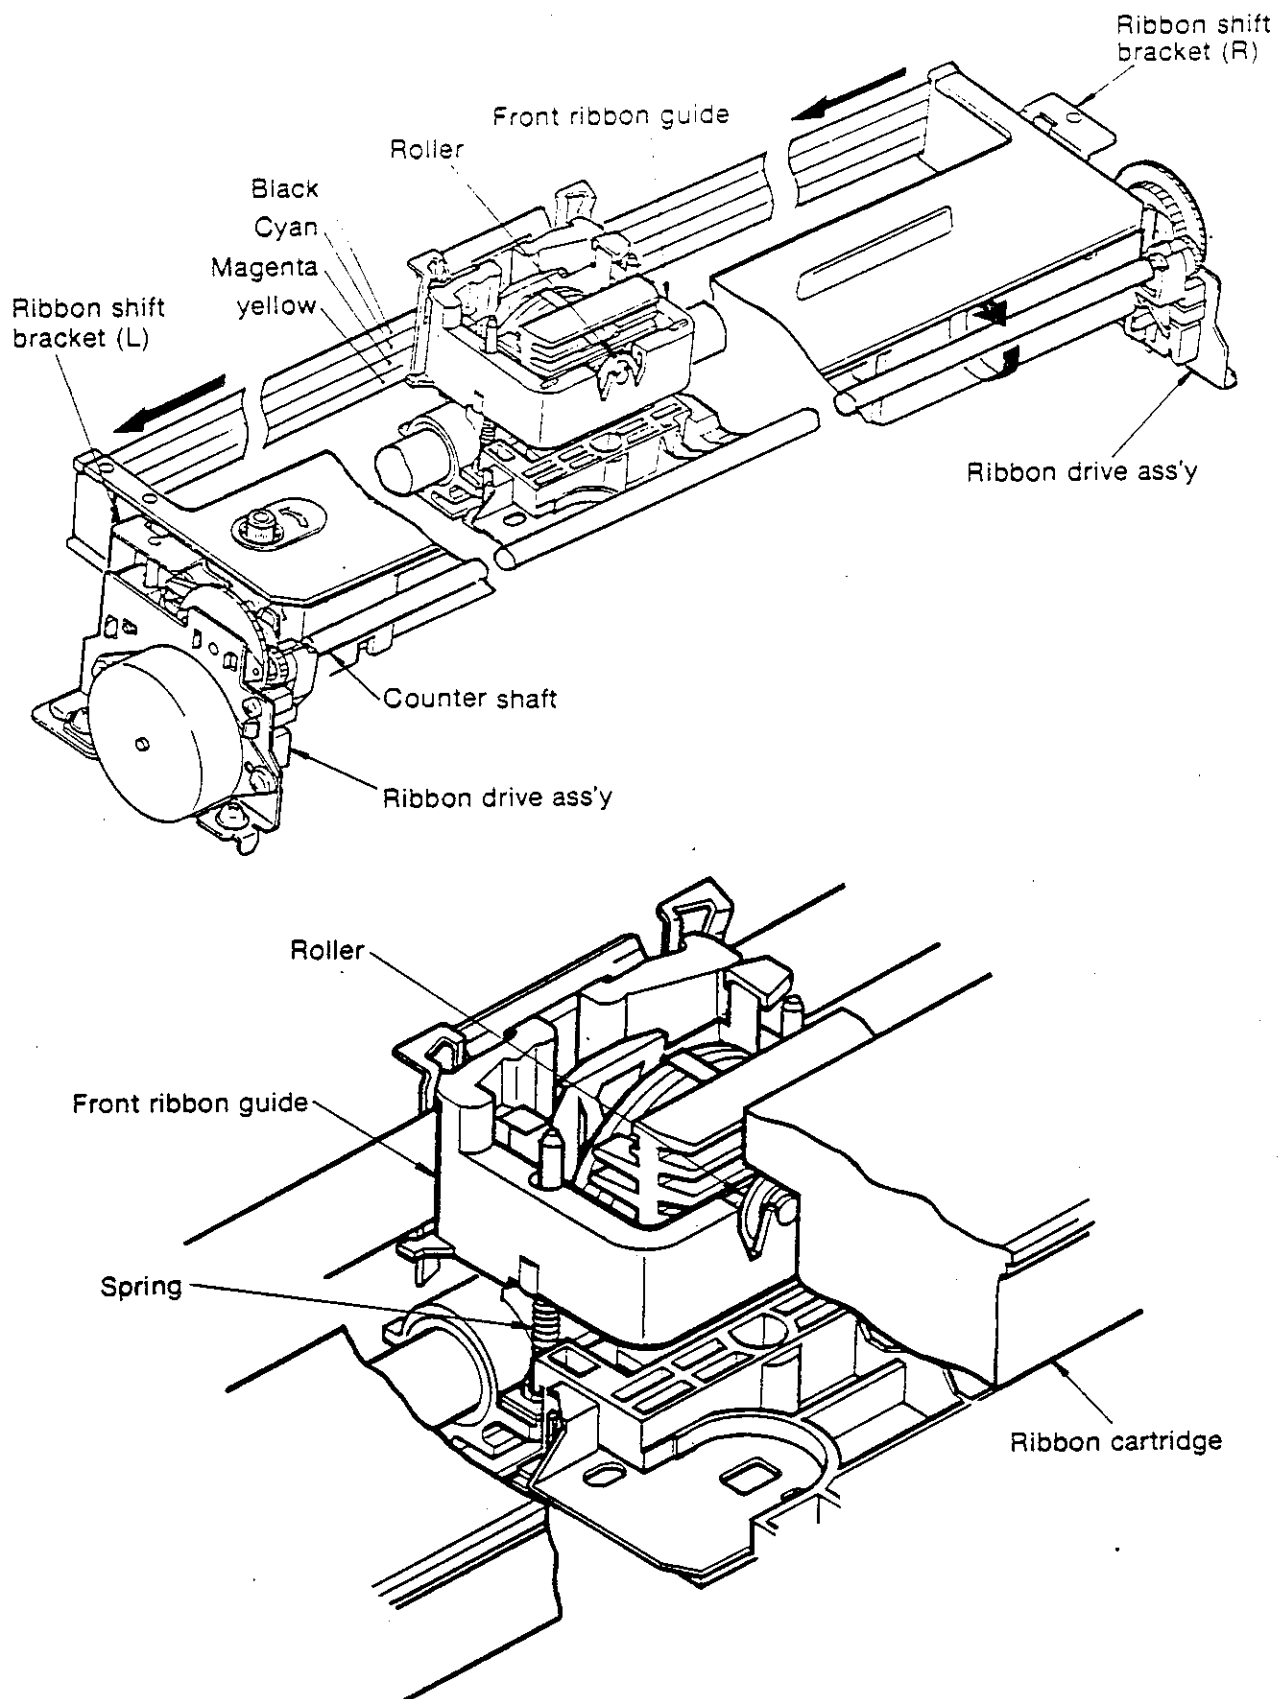

Figure A-8 Ribbon drive assembly and peripheral mechanisms
The ribbon drive assemblies (L) and (R) are coupled by a counter shaft as shown in Figure A-8, and the left and right ribbon shift brackets are moved up and down together.
The ribbon guide, on the other hand, is raised by spring action (see Figure A-8), and the roller installed in the ribbon guide meets the ribbon cartridge to determine the height of the ribbon guide. That is, if the ribbon cartridge moves up and down, the ribbon guide will also move up and down together to ensure a smooth ribbon change.